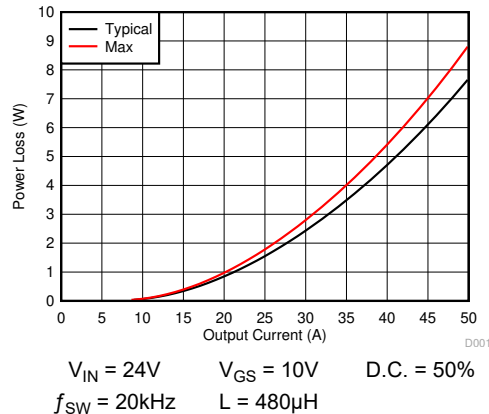

Figure 4-1. Power Loss vs Output Current
The typical power block system characteristic curves (Figure 4-1 through Figure 4-6) are based on measurements made on a PCB design with dimensions of 4in (W) × 3.5in (L) × 0.062in (H) and 6 copper layers of 2oz copper thickness. See Section 5 for detailed explanation. $T_J = 125^\circ\text{C}$, unless stated otherwise.
図 4-1 plots the CSD88584Q5DC power loss as a function of load current. The measured power loss includes both input conversion loss and gate drive loss.
In the example below, we show how to achieve this for the temperatures $T_C = 124^\circ\text{C}$ and $T_B = 120^\circ\text{C}$. First we draw from 50 A on the Y-axis at 124°C to 120°C on the X-axis. Then, we draw a line up from where this line crosses the T_X line to see that this line intercepts the SOA at 39A. Thus we can assume if we are measuring a PCB temperature of 124°C , and a top case temperature of 120°C , the power block can handle 39A RMS, at the normalized conditions. At conditions that differ from those in Figure 4-1, the user may be required to make an SOA temperature adjustment on the T_X line, as shown in the next section.
- Power loss at 40A $\approx 4.7W$ (図 4-1)